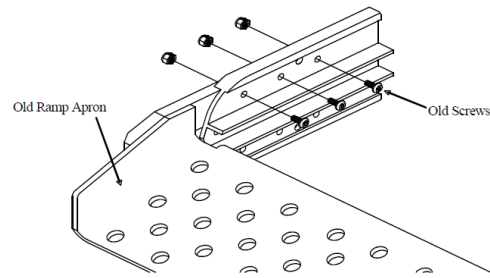

FIG. 1
- a. Using the 7/16" wrench and socket, remove the six screws holding the apron to the ramp rails as shown in Fig. 1.